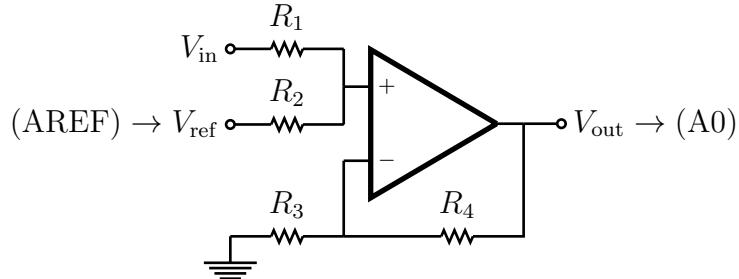

Figure 5: A DC level-shifter with unit gain. The points (AREF) and (A0) refer to the Arduino pins, which should be connected as shown.
The low-pass filter in Fig. 4 is used to convert PWM output (on pin 5 of the Arduino) into a DC reference voltage V_{ref} . This reference voltage is used as (1) the reference for the ADC, at pin AREF, setting the dynamic range of the ADC, and (2) the reference to the DC level shifter circuit in Fig. 5 so that input to the ADC is referenced to $V_{\text{ref}}/2$. In this way, we can adjust V_{ref} to match the dynamic range of our signal, and the DC offset will be set to the middle of this range. This will ensure that even for small signals, the full 8-bit precision of the ADC is being put to use.